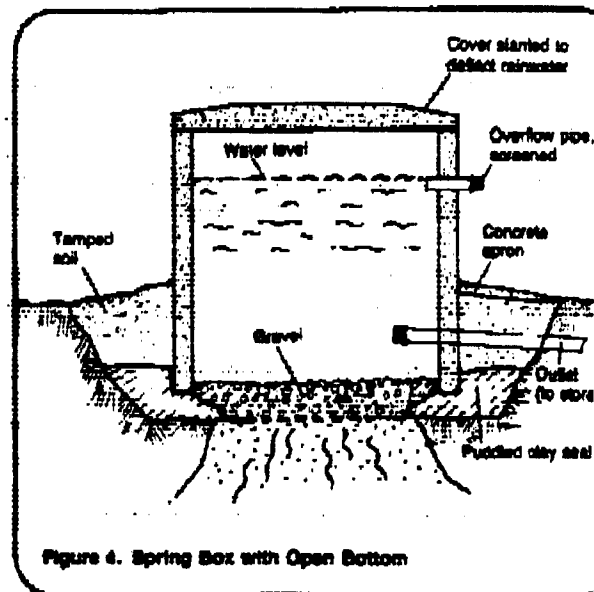

Figure 4. Spring Box with Open Bottom
**Spring Box with Open Bottom.** If a spring flows through a fissure and emerges at one point on level ground, a spring box with an open bottom can be developed as shown in Figure 4. The area around the spring is dug out until an impermeable layer is reached. The area around the spring is then leveled and lined with gravel. The spring box is placed over the spring and gravel to collect the flow, and clay or concrete is packed around the box to prevent seepage between the ground and the box. Sometimes a small sump can be built at the bottom so that sediment settles in one place.